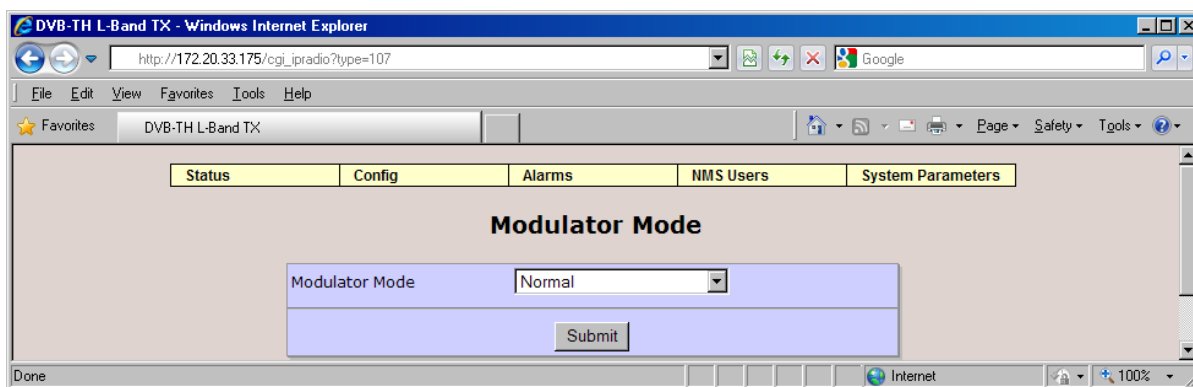

Figure 5-4 Modulator Mode
1. Navigate to Config -> Modulator Mode to ensure Normal operation is selected – see Figure 5-4. Normal mode must be selected for OFDM carrier generation.